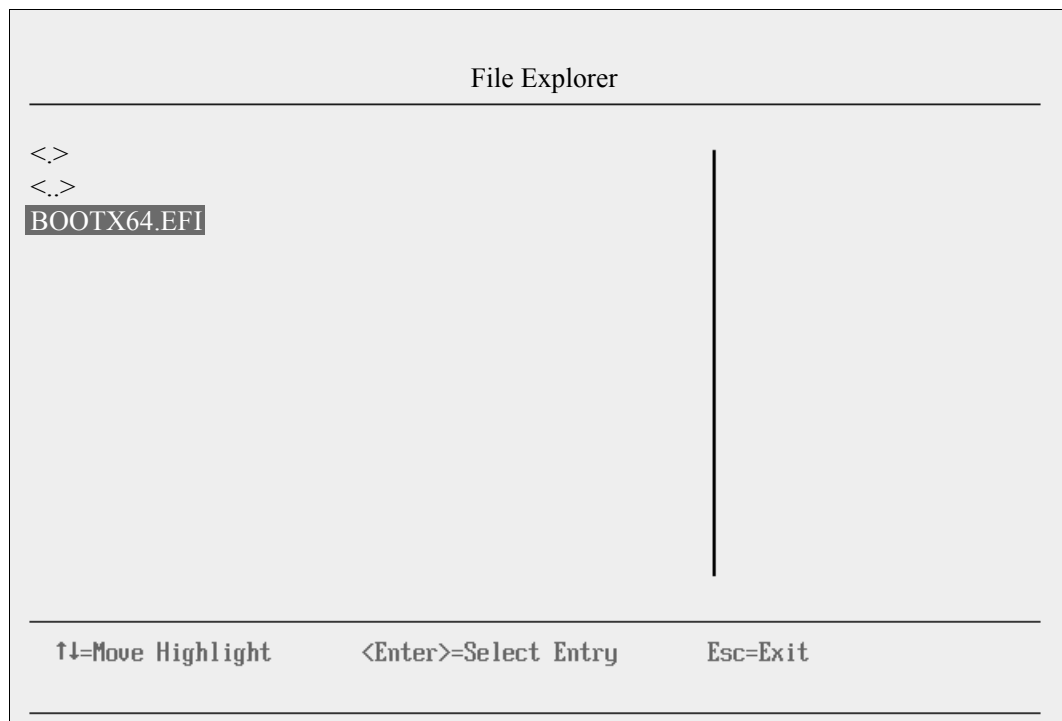

Figure 9-190 Selecting the BOOTX64.EFI file
5. Now that you are browsing the DVD, select **EFI**, select **BOOT**, and then select **BOOTX64.EFI** (Figure 9-190). This file name might be different if you are booting other versions of Windows, VMware, or Linux.